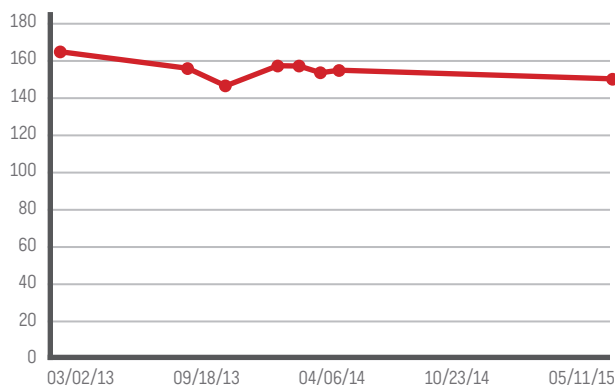

Figure 4. Normalized permeate flow of the first stage of the RO system after Vitec 7000 was put online
- 1 Only an 8.0% decrease in flow was observed in the first stage over 2 years (Figure 4).